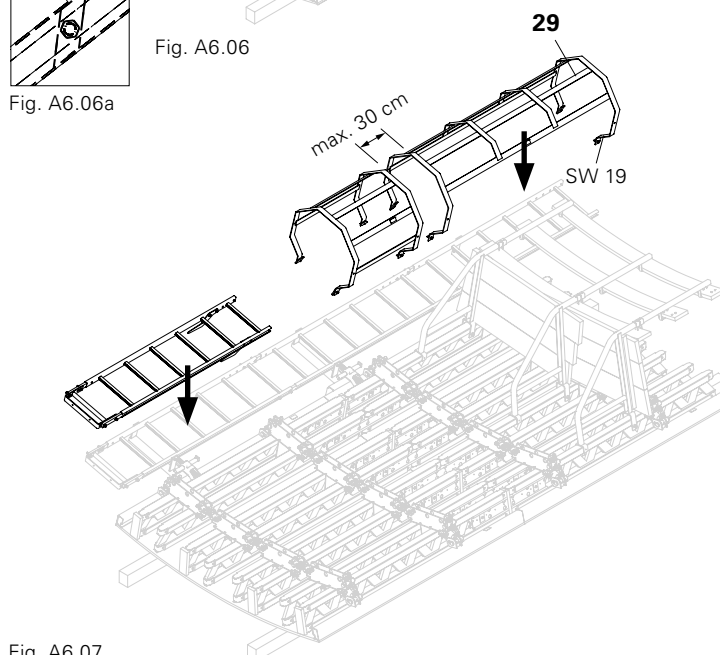

Fig. A6.07
5. Bolt on Ladder Safety Cage RFP 200 (29) at the height of each platform. (Fig. A6.07)
6. Close gaps with Ladder Safety Cage 75 or 150. Clear spacing between the ladder safety cages  $\leq 30$  cm. (Fig. A6.07)